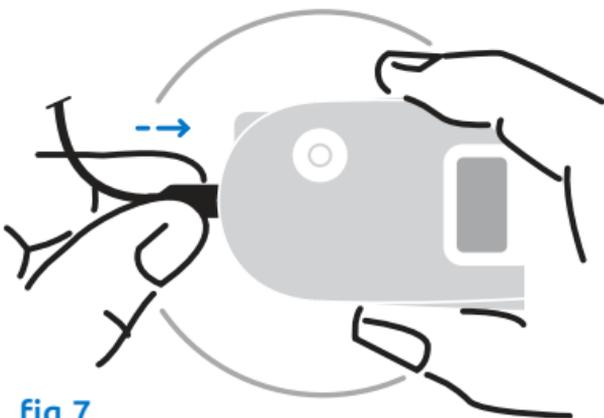

fig.7
- 3 Connect the new actuator cable plug into the driver socket, making sure to orient the plug correctly in relation to the socket, and that the plug is fully inserted and secured. (*fig.7*)